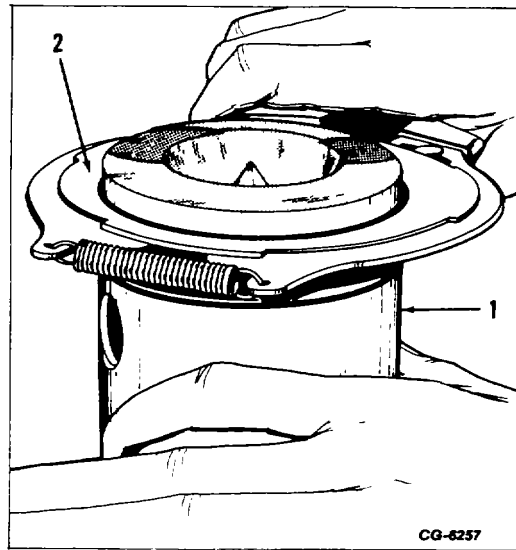

Figure 15. - Installing Piston Ring using Piston Ring Expander Tool
3. Install new rings in the piston grooves with a suitable ring installing tool as shown in Fig. 15.